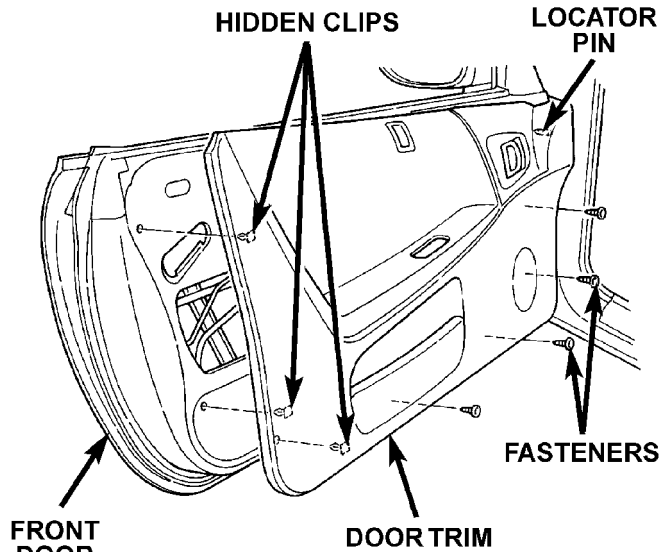

Fig. 7 Door Trim Panel
- (6) Remove window regulator crank, if so equipped.
- (7) Disengage hidden clips holding trim panel to door from around perimeter of trim panel (Fig. 7).
- (8) Tilt trim panel outward to clear locator pins on backside of trim panel.
- (9) Disengage trim panel from retainer channel on inner belt weatherstrip at the top of the door by lifting and gently jiggling.
- (10) Move trim panel away from door and disengage clip holding door latch linkage to back of inside door handle.
- (11) Separate latch rod from handle.